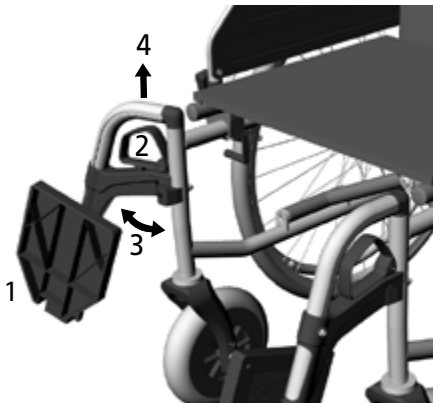

Fig.9
2. Pull the locking grip upwards (2, Fig. 9)
3. Swivel the leg rest to the side (3, Fig. 9).
4. If you wish to remove the leg rest: Take hold of the leg rest on the horizontal part of the tube and pull the leg rest upwards out of the guide (4, Fig. 9)